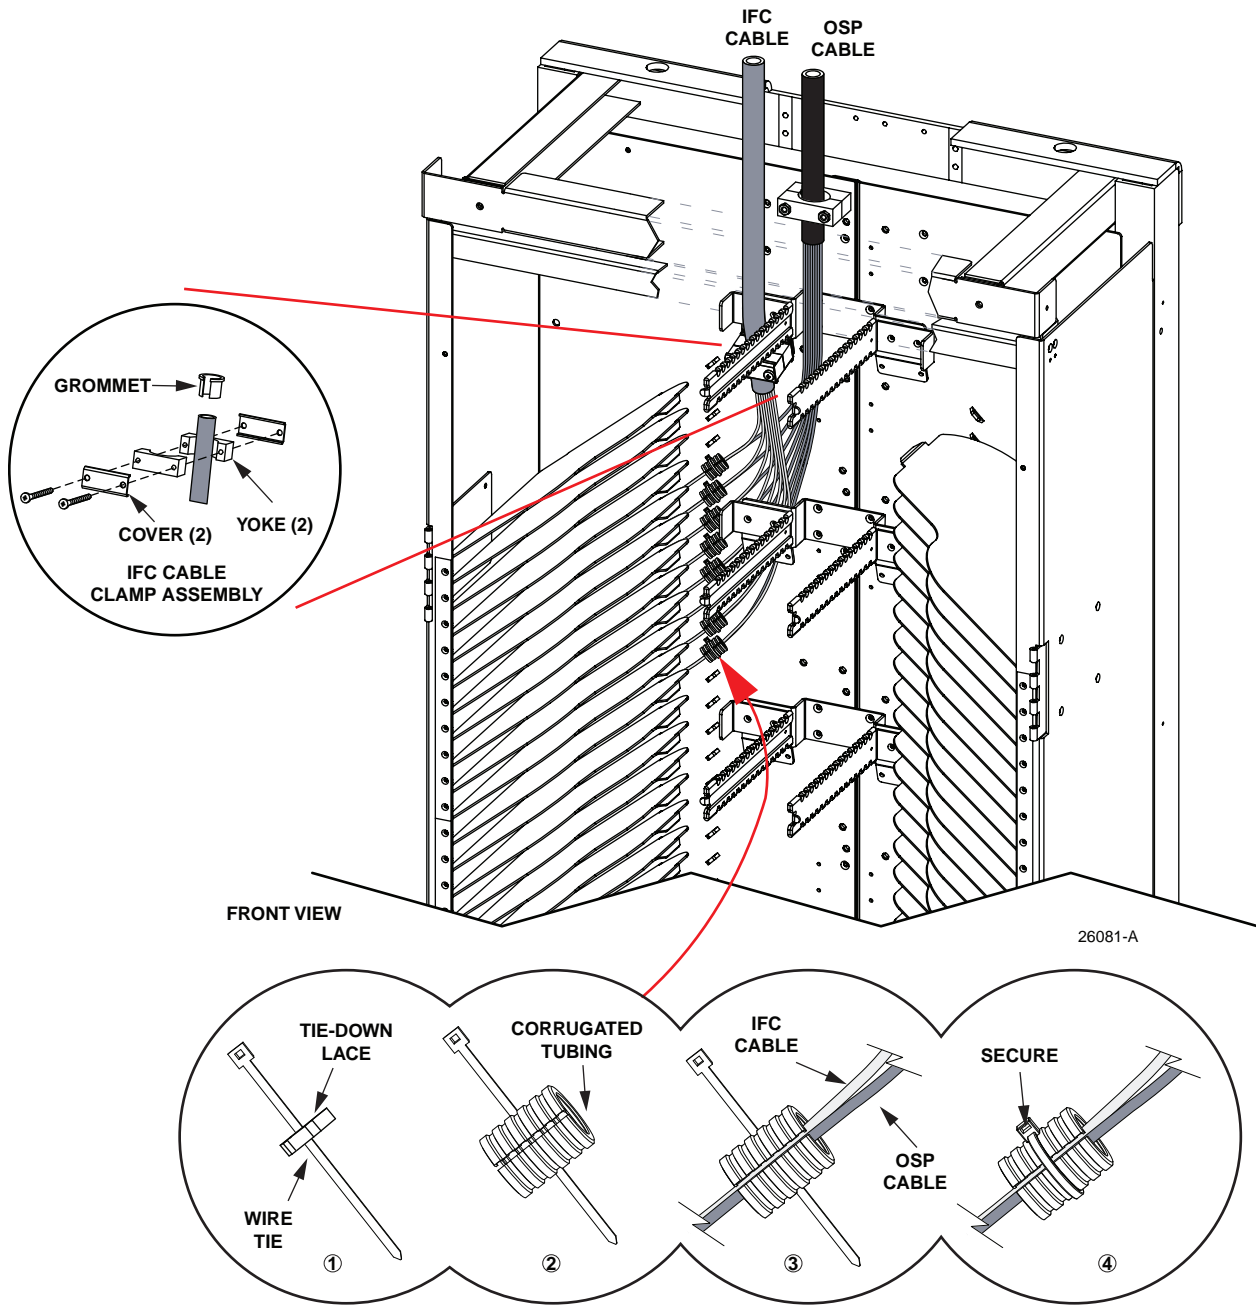

Figure 28. IFC Cable Routing (Overhead Cable Environment, 96-Fiber IFC Configuration)
3. Route IFC cable. Secure IFC with OSP cable to the bay as shown in Figure 28.